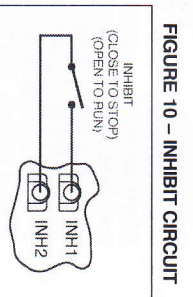

FIGURE 10 – INHIBIT CIRCUIT
J. Inhibit Connection – The control is supplied with inhibit terminals (INH1 and INH2) to connect an inhibit switch. See Figure 10. These terminals are used to electronically stop the control. When the Inhibit switch is closed, the control will coast to stop. When the Inhibit switch is opened, the control will accelerate to the main speed potentiometer setting.